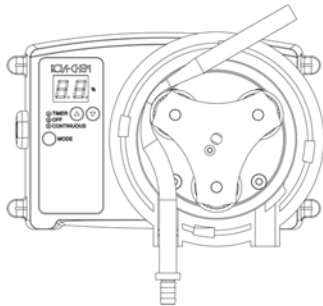
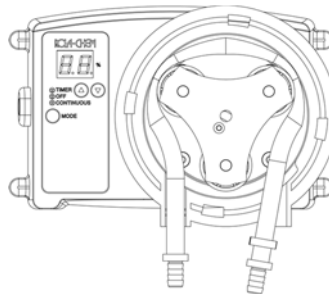

Figure 3
Figure 4
- 6) Toggle the MODE Button intermittently between TIMER, OFF and CONTINUOUS positions to rotate Roller assembly while guiding Pinch Tube Assembly into housing as shown in Figures 3 and 4 then switch OFF with roller in position as shown in Figure 4. Keep fingers away from rotating parts.